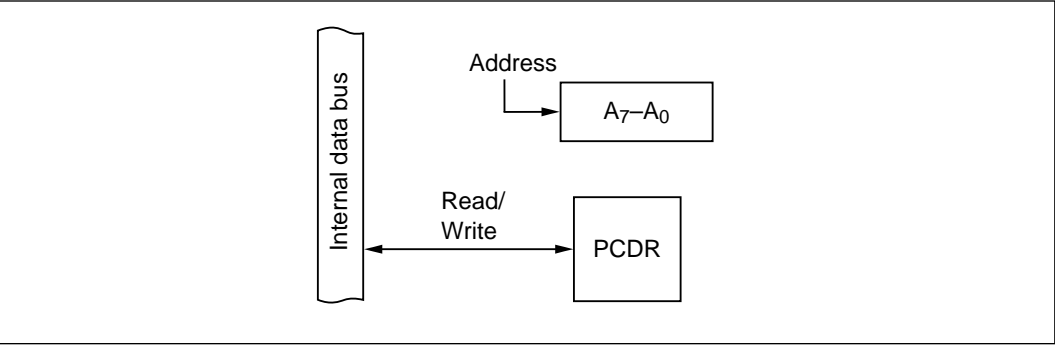

Figure 10-90 Address Bus (Modes 1 to 6)
(4) Address Bus (All Pins: Modes 1 to 6): Figure 10-90 shows a block diagram illustrating the address-bus function. Table 10-68 indicates register read/write data. When port C is used as an address bus, values written in the port C data register (PCDR) have no effect on the bus lines. When read, PCDR returns the value written in PCDR.